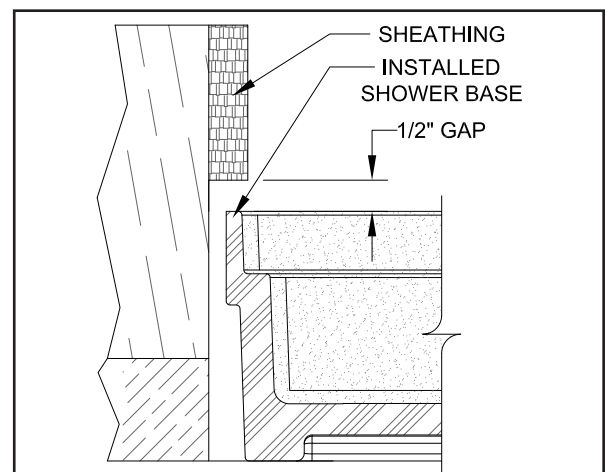

FIG. 8- SHEATHING MATERIAL GAP
6. If installing sheathing material for the shower wall, **allow for Plumbing Outlets and make sure there is a 1/2" vertical gap between the sheathing material and the Base to prevent water damage from wicking (SEE FIG. 8).**